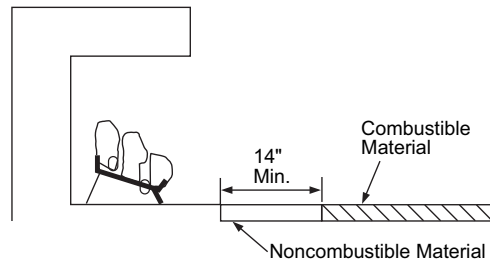

Figure 8 - Minimum Fireplace Clearances If Installed at Floor Level
A. If installing appliance on the floor level, you must maintain the minimum distance of 14" to combustibles (see **Figure 8**).